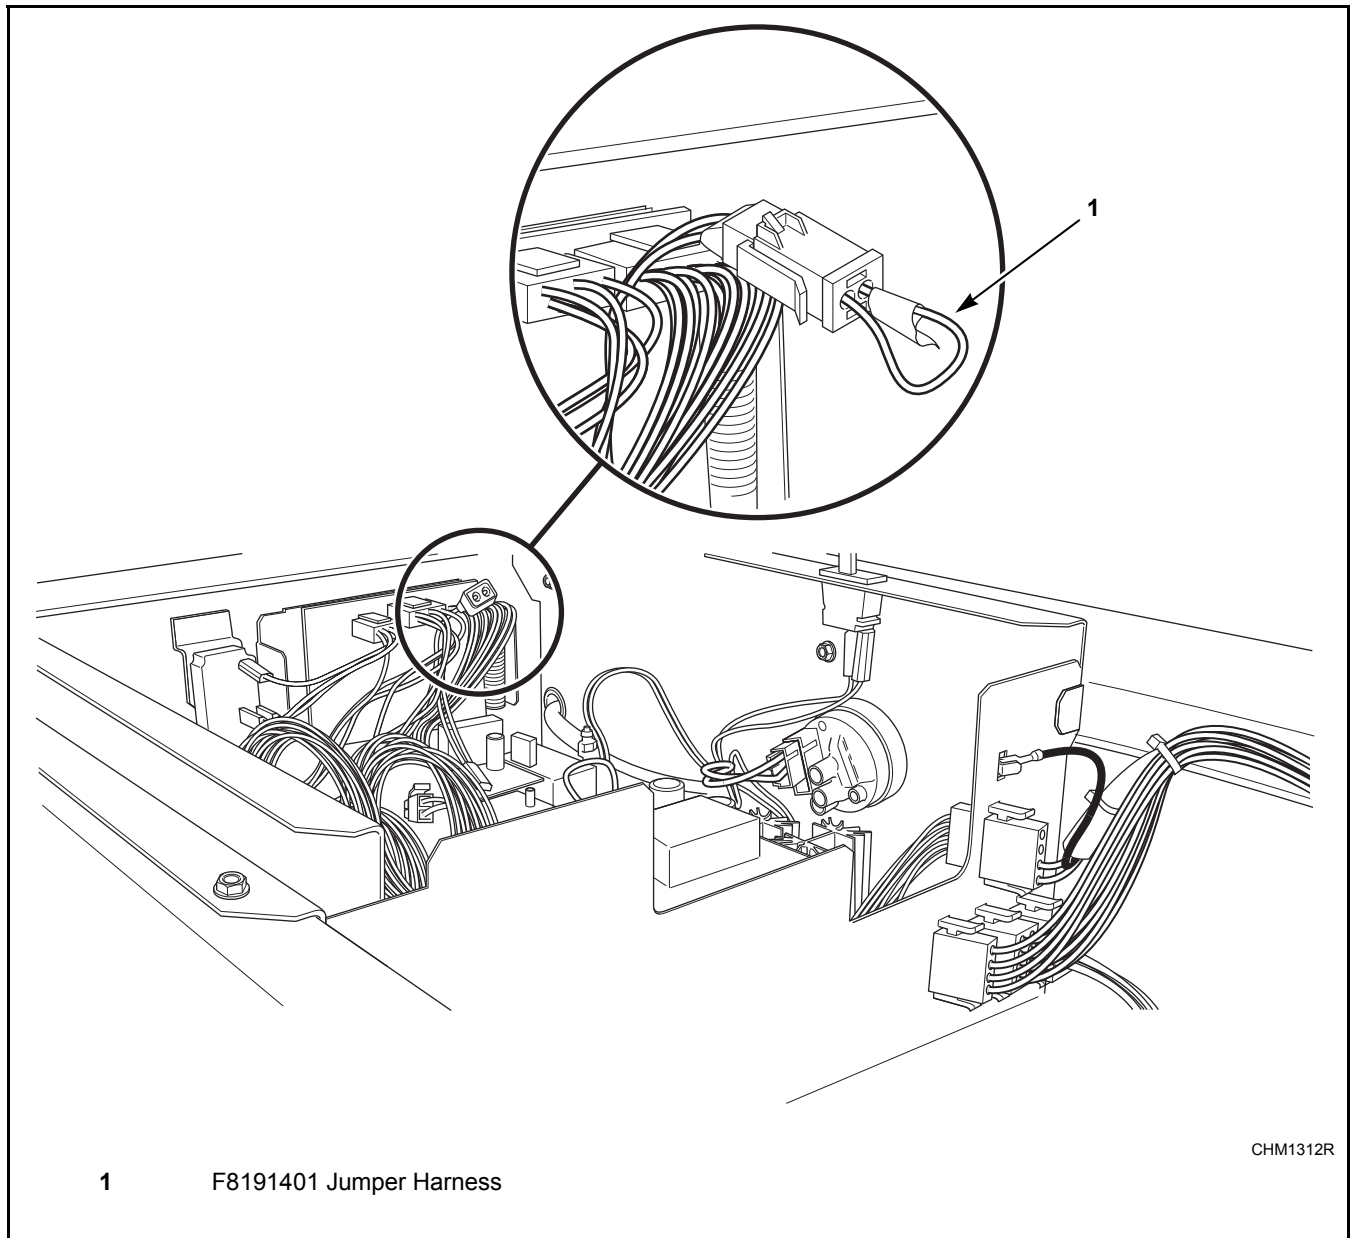

Figure 8
3. Connect jumper harness to H3 connector on control. Refer to *Figure 8*.